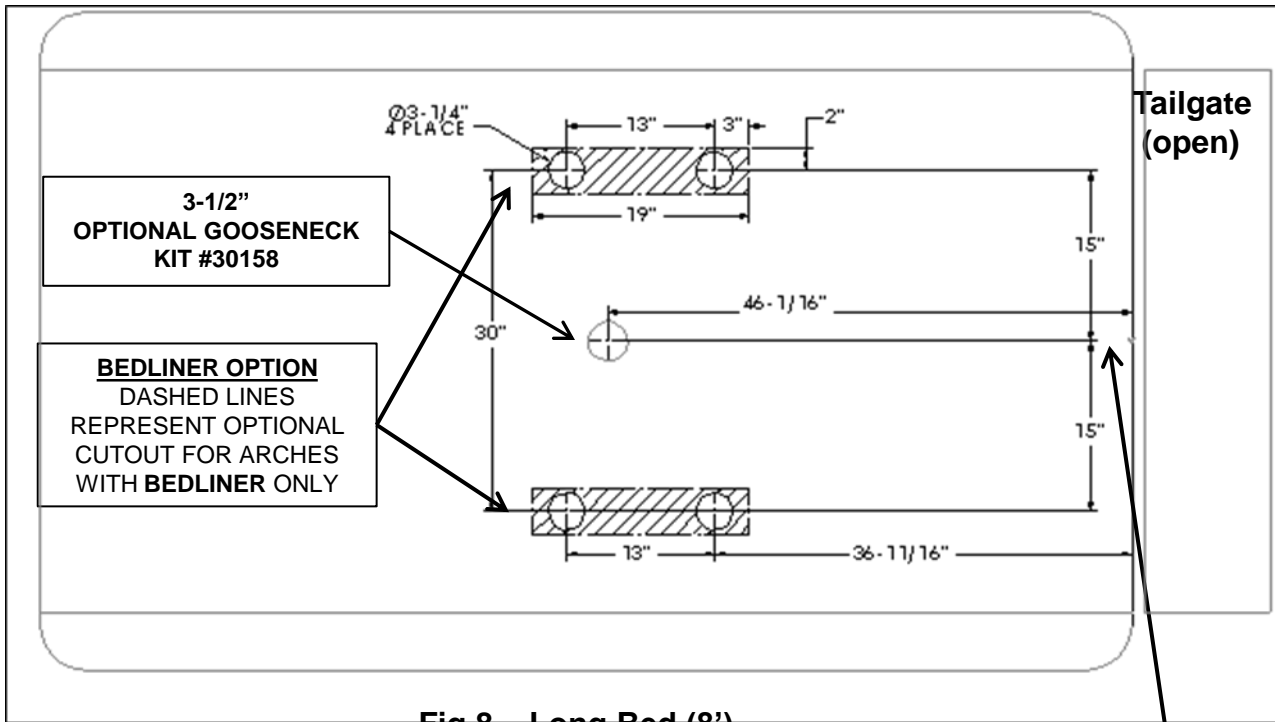
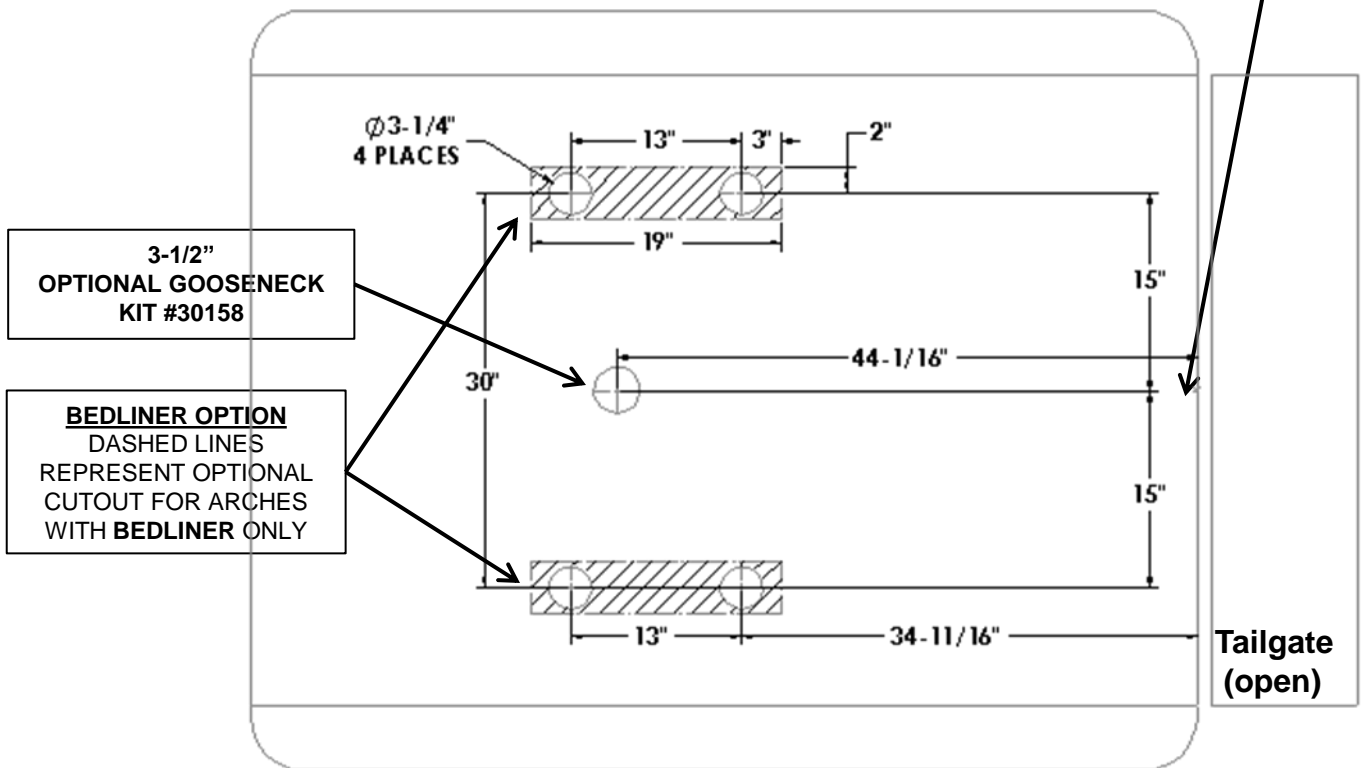

Fig 8 – Long Bed (8')
Fig 9 - Short Bed (6')
4. Using the drivers side edge of the bed corrugation, find the center of the truck bed. Measure the locations of the holes that will need to be cut using **Figure 8** (long bed application) **or Figure 9** (short bed application). If a plastic drop-in bed liner is used cut 19" X 4" slots in liner measured from center of holes in truck bed. **Remove plastic bed liner if applicable** . Spray-in bed liners and bed mats less than 1/4" thick will work with normal installation instructions. **Note:** Consult installer for recommended curing time on spray-in liner before cutting holes through bed. If the *REESE® Elite™ Series* slider fifth wheel assembly is used, then see fifth wheel slider assembly instructions for slot cut dimensions.